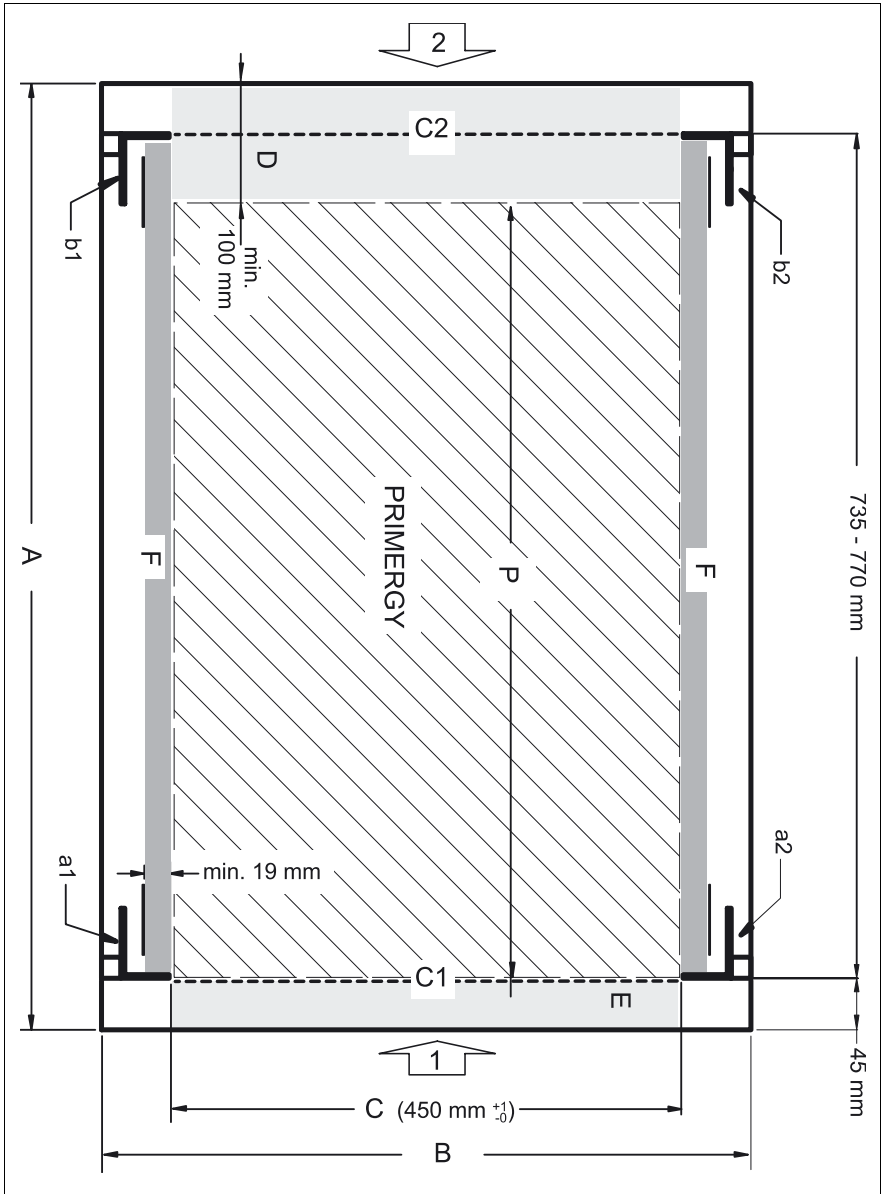

Figure 4: Mechanical requirements
- Installation dimensions (see the dimensions shown in figure 4 on page 35).